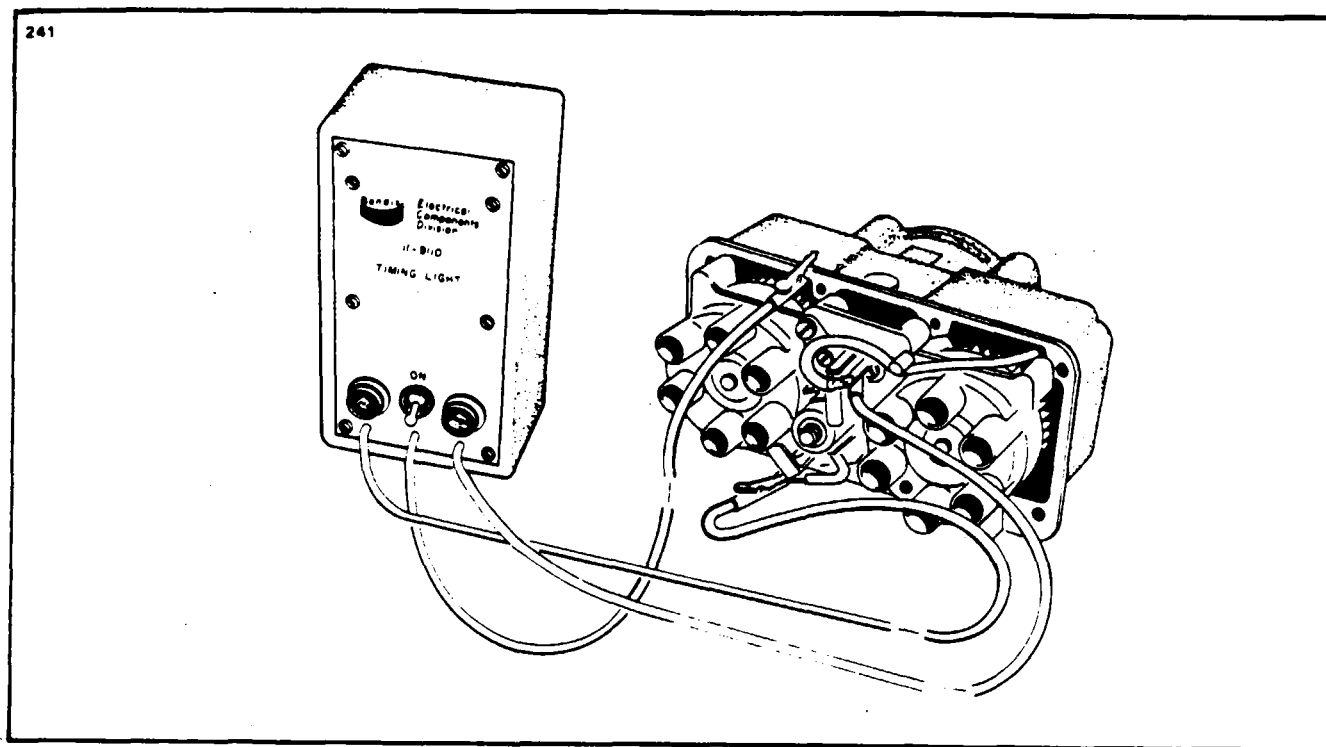

Figure 74-8. Timing Light Connected to Magneto and Breakers
11. Connect the red timing light lead to the left breaker terminal and the green lead to the right main breaker terminal. (Refer to Figure 74-8.)